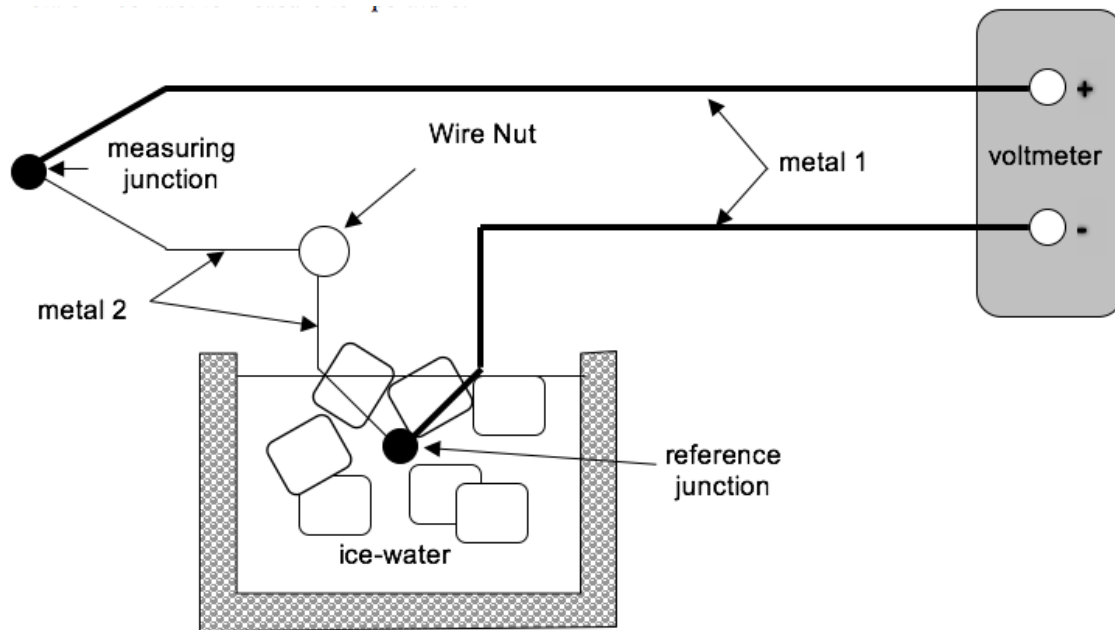

Figure 1: Thermocouple schematic: voltmeter with ice reference for cold junction.
Unless the terminals of the voltmeter are made of exactly the same material as the wires that are attached to it, a Seebeck voltage is generated and must be accounted for. To get around this problem, the leads and the terminals can be of the same material and a second junction is created and kept at a known reference temperature. As shown in Figure 1, the reference junction is often put into an ice-water mixture such that it is at a known reference temperature, with the voltage measured by a voltmeter.
- (b) Combine two thermocouples together by teaming up with your assigned partner and build an ice-referenced thermocouple system as shown in Figure 1 above. Attach a banana plug to each end of the metal 1 wires. Attach the other two ends of metal 2 wires TOGETHER using a wire nut.